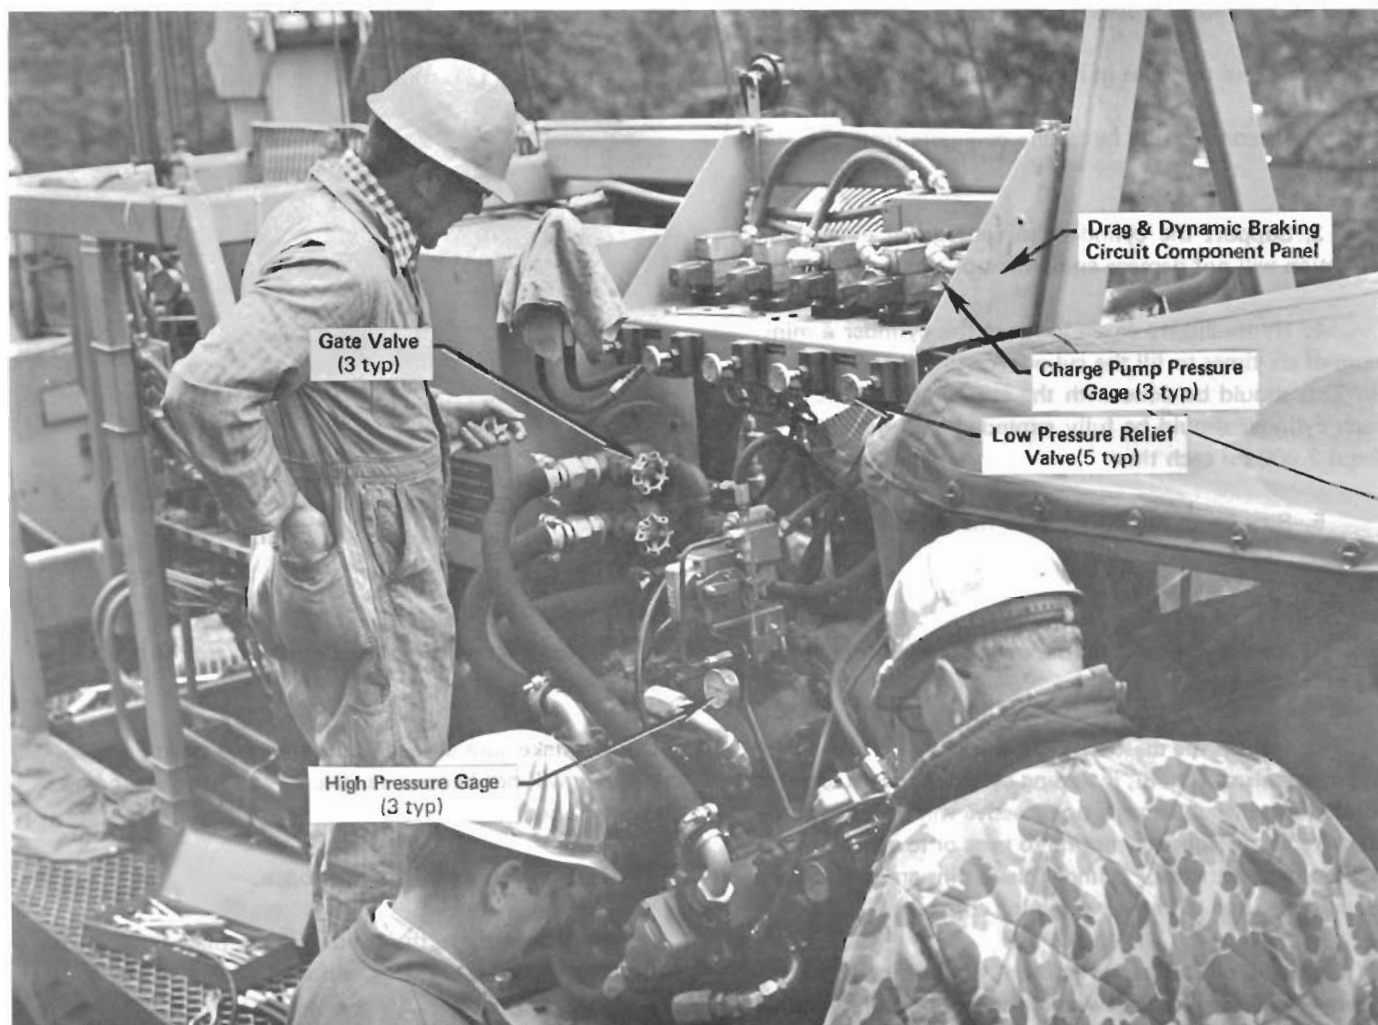

Figure 5.—Drag and circulation system.
2. Open completely all three gate valves in the charge pump suction lines between the tank and the pump (fig. 5).
6. Immediately after engaging clutch, check all three charge pump pressure gages (fig. 5) and the back pressure gage located in the hydraulic return line. The charge pump pressure should read greater than 100 psi at engine idle (fig. 5). **Note:** If no pressure is indicated in any one of the three systems, immediately disengage the clutch and repeat steps 1 and 2. Charge pump pressures less than 100 psi would indicate a charge pump malfunction.
The amount of drag for each drag circuit is adjusted initially by opening the low pressure relief valve one-half turn (fig. 5). This should give a drag pressure for the mainline and haul-back of approximately 400 psi and can be checked for each system by:
The dynamic braking circuit was added to the main pump relief valve section and also contains a flow control valve (fig. 10) that controls the amount of time the low pressure relief valve (fig. 5) can relieve any high pressure surges that may develop in the system when shifting. This flow control valve should be adjusted for a 3-second dynamic braking interval, and the low pressure relief valve adjusted for a dynamic braking pressure of approximately 800 psi.